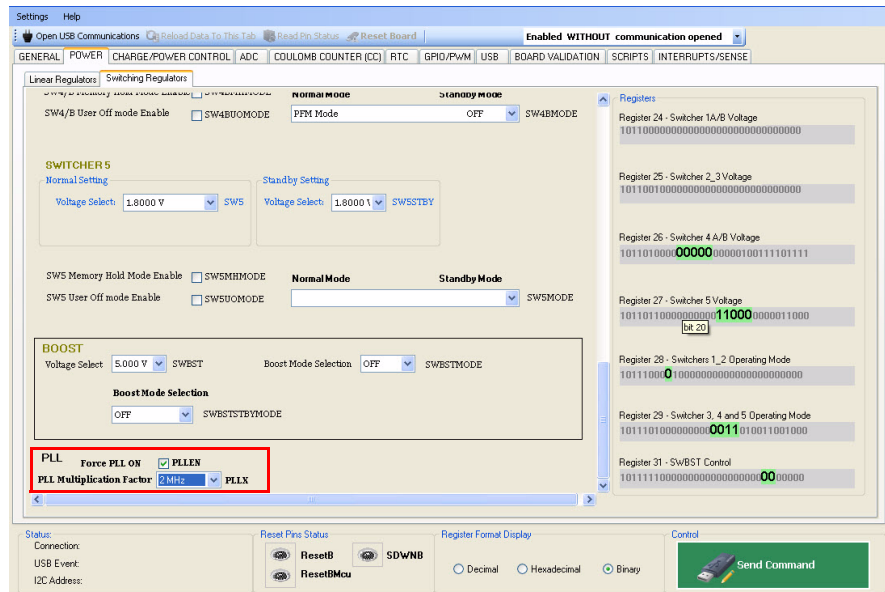

Figure 24. Switching Regulators Sub-tab Configuration Window 3
- Enable the **Force PLL ON** option to configure the PLL frequency as shown in Figure 24.